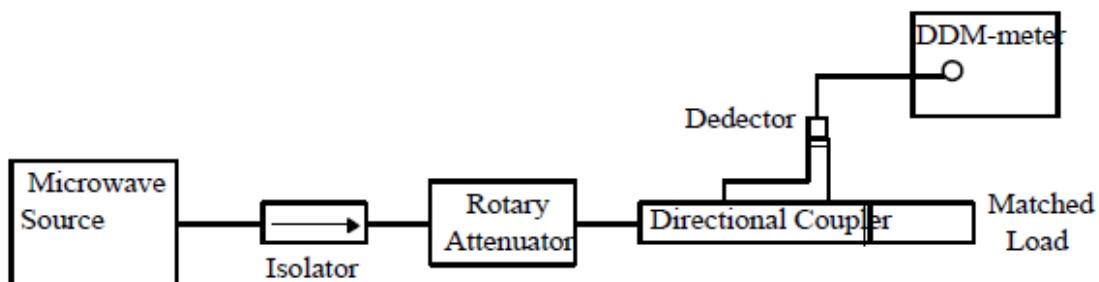

Figure 4: Experimental setup for measuring the coupling of a directional coupler
1.1.1. Set up the experimental apparatus as shown in Figure 4 (at $f=10$ GHz). Set the rotary attenuator to 0 dB.